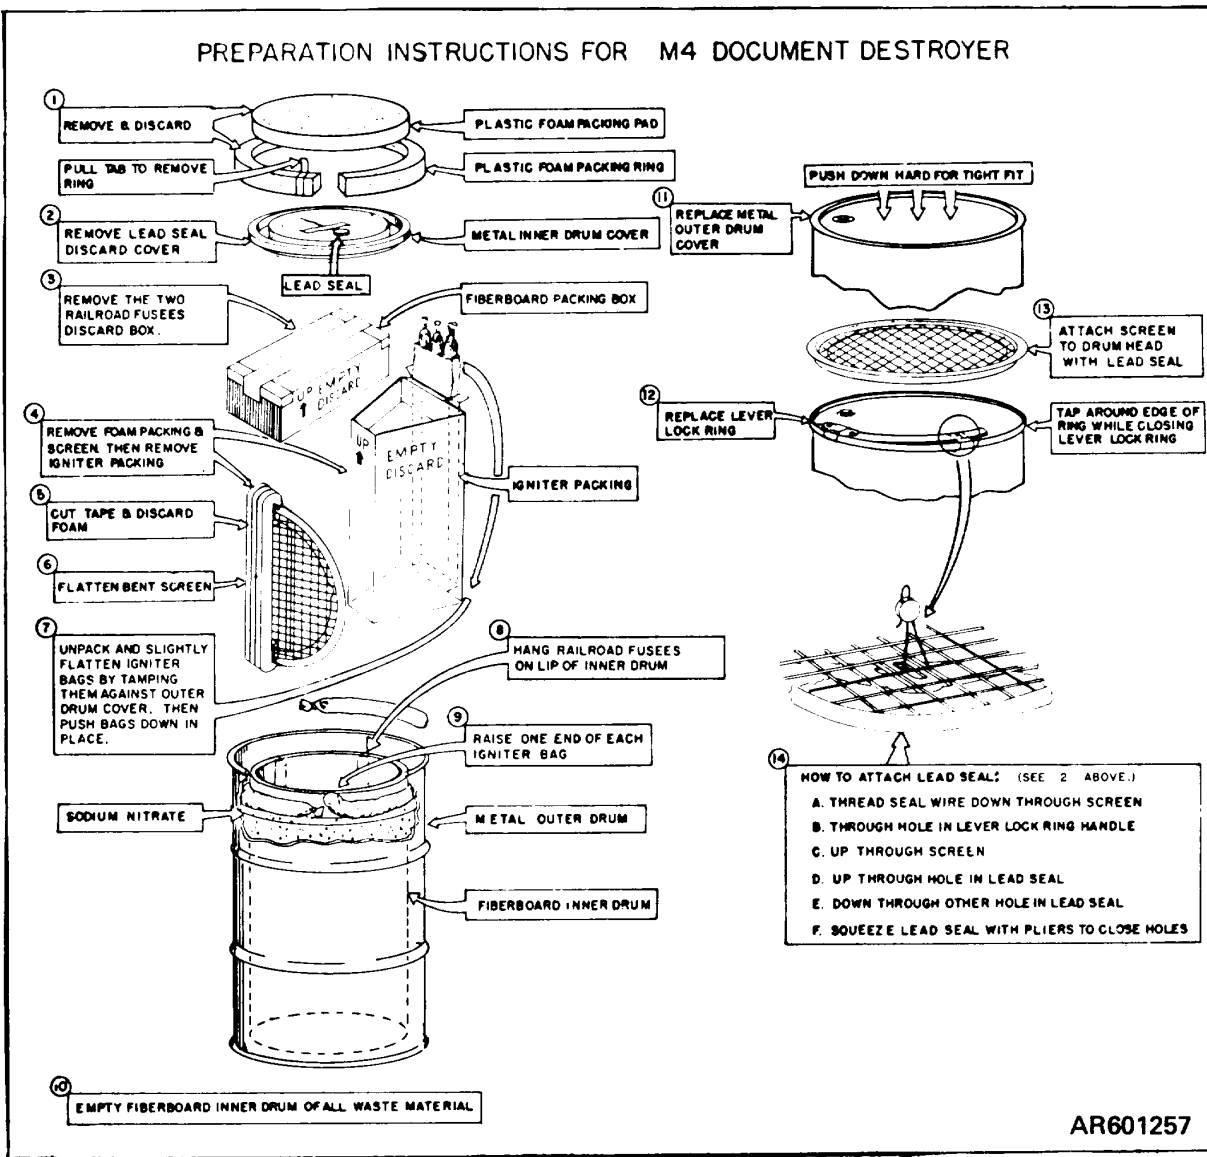
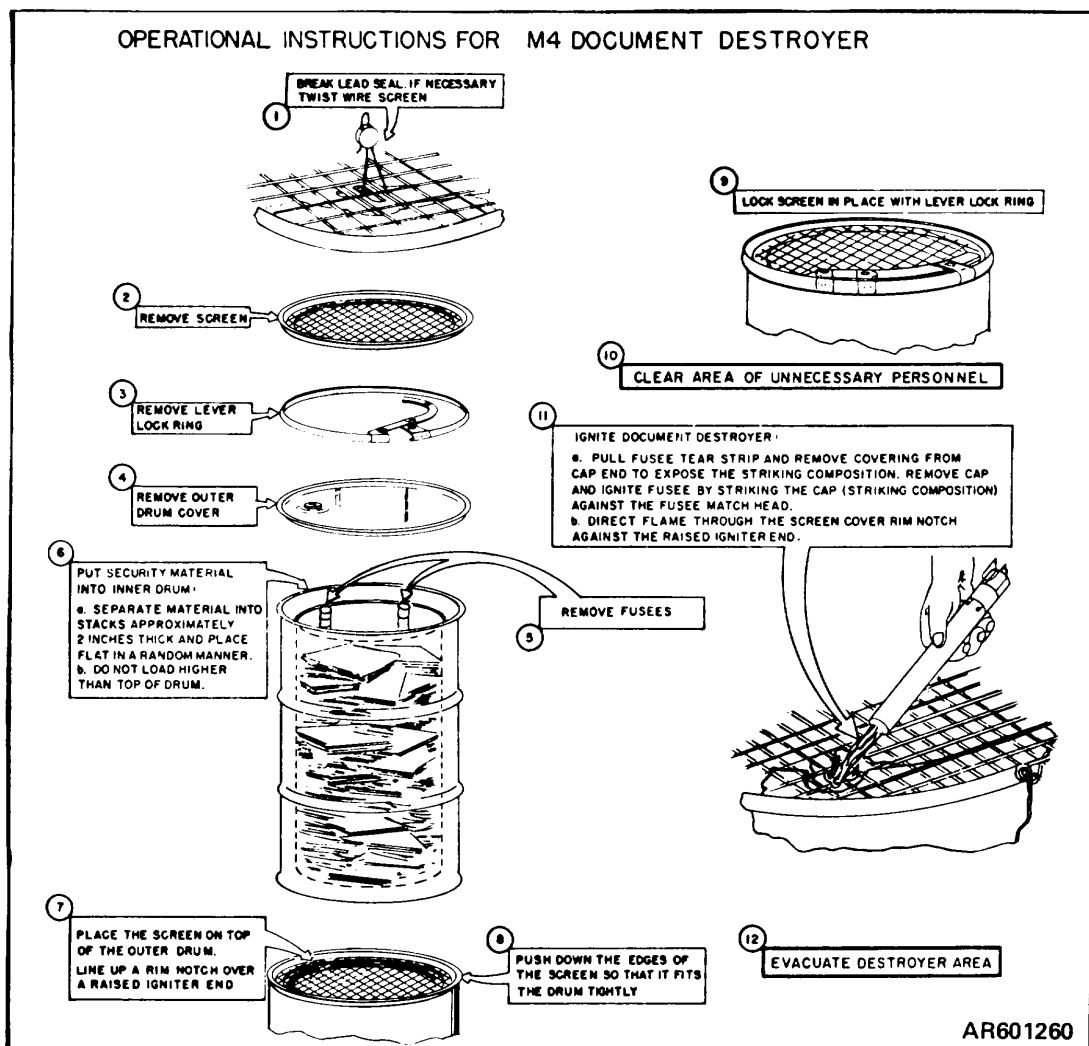

Figure 2-1. Illustration of preparation instructions.
Figure 2-4. Illustration of operating instructions.
c. Remove and discard the plastic foam packing pad (fig. 2-1). Remove and discard the plastic foam packing ring. The preparation instructions card is located under the drum cover in a clear plastic envelope.
operating instructions (fig. 2-4) in a suitable area. Retain the preparation instructions (fig. 2-1) for possible reuse.